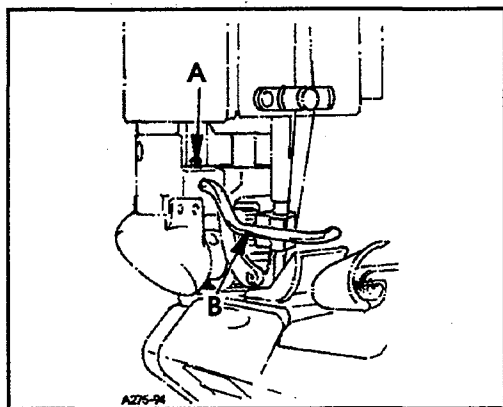

FIG. 23
The air blower tube should be set left to right so it is parallel with the throat plate. It should be set front to back so when feeding over a cross seam the presser foot does not contact the tube. If adjustment is necessary, loosen screw (A, Fig. 23) and position air blower tube (B) as required. Retighten screw (A).